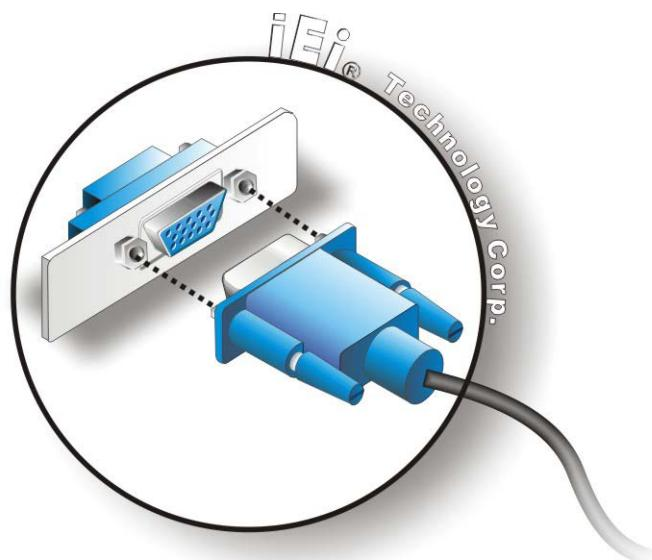

Figure 4-10: VGA Connector
Step 3: Insert the VGA connector. Once the connectors are properly aligned with the insert the male connector from the VGA screen into the female connector on the KINO-CVR-D25502/N26002. See Figure 4-10.